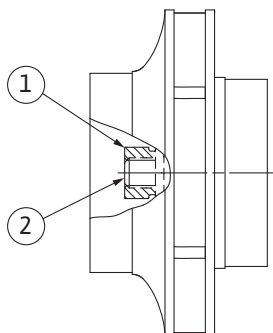

Fig. 107: Correct position of the impeller nut after installation
8. Hold the shaft with open-end wrench (22 mm width across flats) and tighten the impeller nut to the prescribed tightening torque (see table "Tightening torques" [► 29]). The nut (Fig. 107, Item 1) has to be about ± 0.5 mm flush with the shaft end (Fig. 107, Item 2). If this is not the case, release the nut and repeat steps 4 – 8.